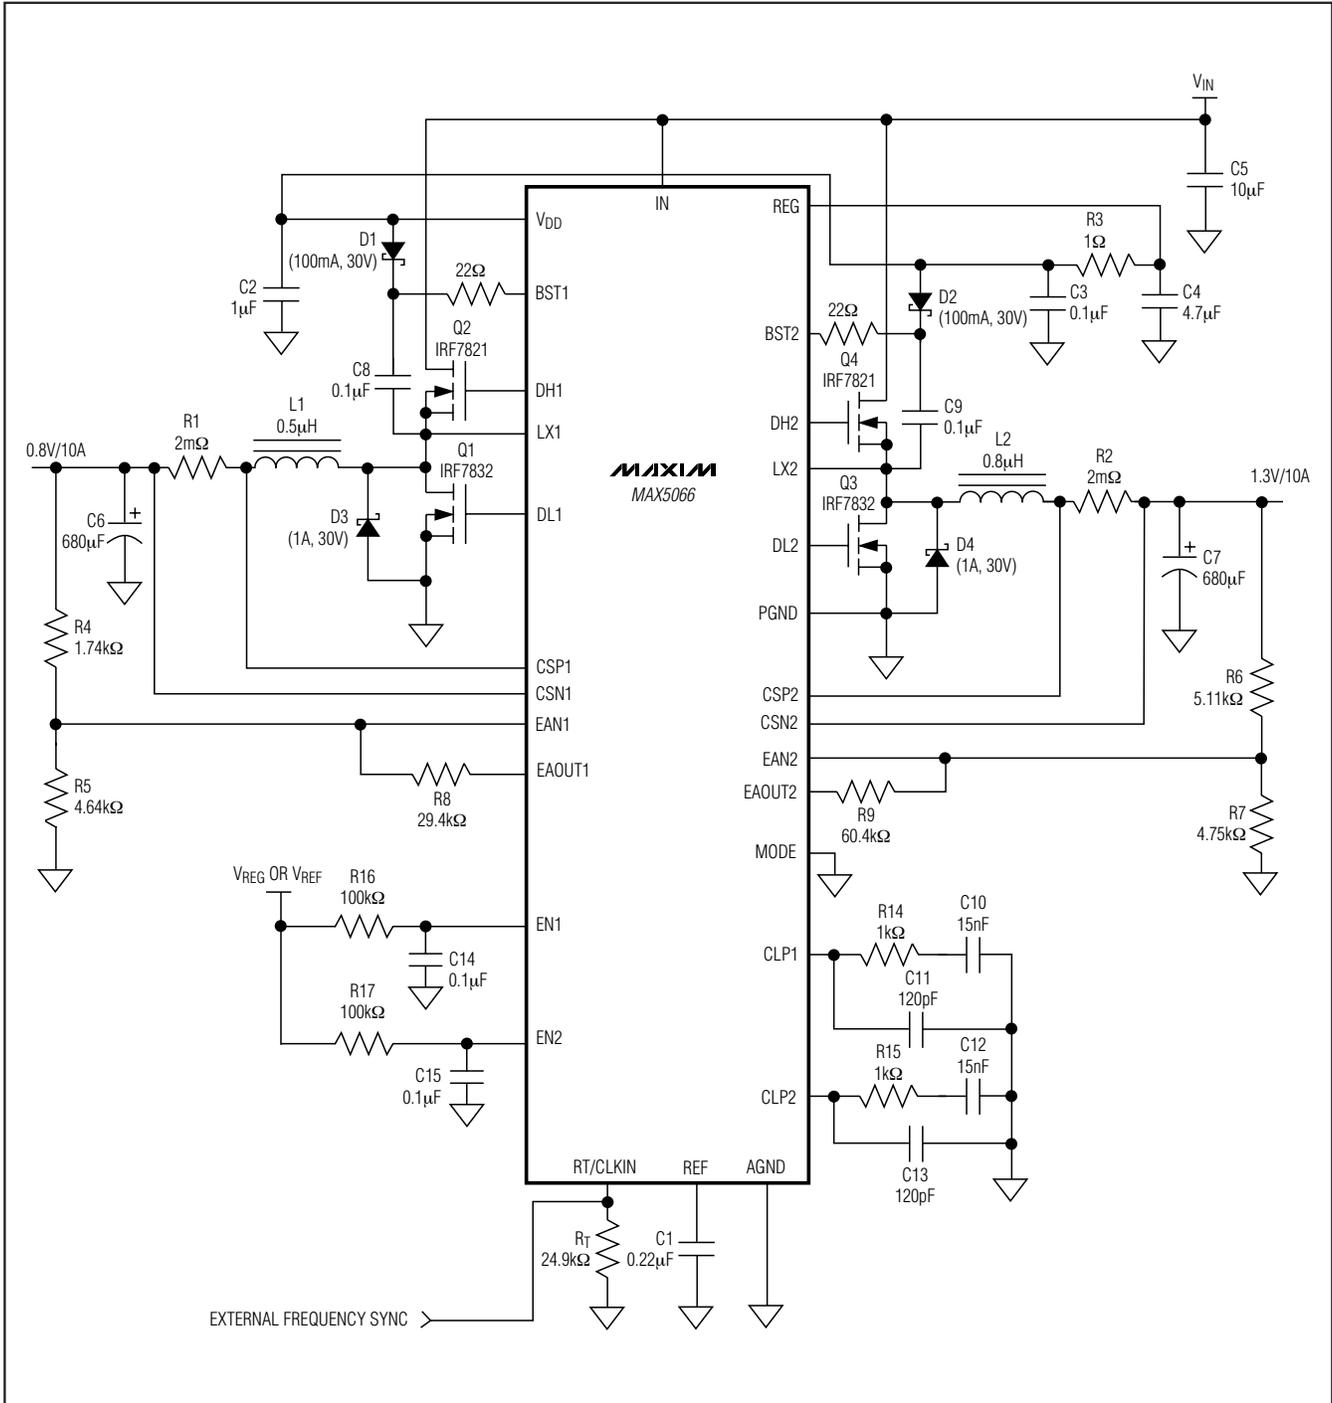

Figure 6. Dual-Output Buck Regulator
where IIN is the quiescent supply current into IN (4mA, typ), QGQ1, QGQ2, QGQ3, QGQ4 are the total gate charges of MOSFETs Q1 through Q4 at VGS = 5V (see Figure 6), and fSW is the switching frequency of each individual phase.
diodes D1 and D2 (see Figure 6). Connect a 0.1µF ceramic capacitor between BST_ and LX_.
Minimize the trace inductance from BST_ and VDD to rectifier diodes, D1 and D2, and from BST_ and LX_ to the boost capacitors, C8 and C9 (see Figure 6). This is accomplished by using short, wide trace lengths.
The compensation network at the current-error amplifiers (CLP1 and CLP2) provides an inherent soft-start of the output voltage. It includes (R14 and C10) in parallel with C11 at CLP1 and (R15 and C12) in parallel with C13 at CLP2 (see Figure 6). The voltage at the current-error amplifier output limits the maximum current available to charge the output capacitors. The capacitor at CLP_ in conjunction with the finite output-drive current of the current-error amplifier yields a finite rise time for the output current and thus the output voltage.
An internal oscillator generates the 180° out-of-phase clock signals required for both PWM modulators. The oscillator also generates the 2Vp-p voltage ramps necessary for the PWM comparators. The oscillator frequency can be set from 200kHz to 2MHz by an external resistor (RT) connected from RT/CLKIN to AGND (see Figure 6). The equation below shows the relationship between RT and the switching frequency:
output, voltage-regulating applications where the duty cycle is less than 50%, choose high-side MOSFETs (Q2 and Q4, Figure 6) with a moderate $R_{DS(ON)}$ and a very low gate charge. Choose low-side MOSFETs (Q1 and Q3, Figure 6) with very low $R_{DS(ON)}$ and moderate gate charge. The driver block also includes a logic circuit that provides an adaptive nonoverlap time (30ns typical) to
where I_{MAX} is the full load current of the regulator. V_{OUT} is the output voltage of the same regulator and C_{IN} is C5 in Figure 6. The ESR of the input capacitors wastes power from the input and heats up the capacitor. Reducing the ESR is important to maintain a high overall efficiency and in reducing the heating of the capacitors.
where I_{LOAD_STEP} is the step in load current and $t_{RESPONSE}$ is the response time of the controller. Controller response time depends on the control-loop bandwidth. C_{OUT} is C6 and C7 in Figure 6.
where ΔV_{OUT} is the allowable drop in voltage from no load to full load. R_F is R8 and R9, R1 is R4 and R6, R2 is R5 and R7 in Figure 6.
For stability of the current loop, the amplified inductor-current downslope at the negative input of the PWM comparator (CPWM1 and CPWM2) must not exceed the ramp slope at the comparator's positive input. This puts an upper limit on the current-error amplifier gain at the switching frequency. The inductor current downslope is given by V_{OUT}/L where L is the value of the inductor (L1 and L2 in Figure 6) and V_{OUT} is the output voltage. The amplified inductor current downslope at the negative input of the PWM comparator is given by:
where R_{SENSE} is the current-sense resistor (R1 and R2 in Figure 6) and g_M × R_{CF} is the gain of the current-error amplifier (CEA₁) at the switching frequency. The slope of the ramp at the positive input of the PWM comparator is 2V × f_{SW}. Use the following equation to calculate the maximum value of R_{CF} (R14 or R15 in Figure 6).
where C_{CF} is C10 and C12 in Figure 6.
where C_{CFF} is C11 and C13 in Figure 6.